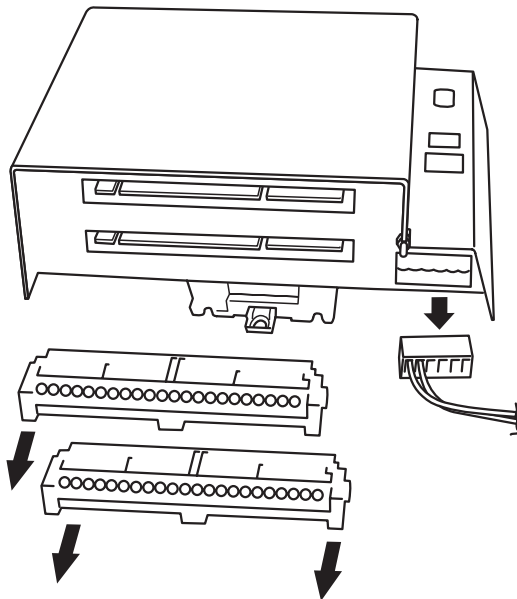

Figure B1.2a Remove electrical connections
1. With reference to figures B1.2a and B1.2b, as necessary, remove the I/O connectors (push inwards, on the clamp located at each end of the connector, to release). Disconnect the power connector, and, the safety earth connection.